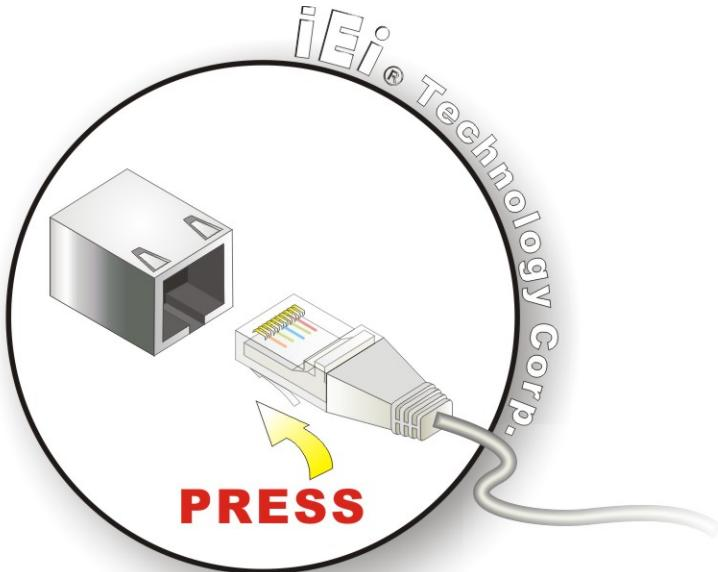

Figure 5-16: LAN Connection
Step 2: Align the connectors. Align the RJ-45 connector on the LAN cable with one of the RJ-45 connectors on the KINO-690S1. See Figure 5-16.